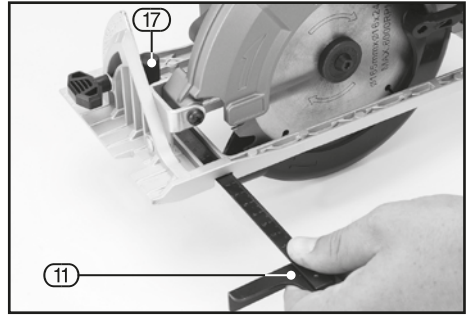

FIG.11
9.5 PARALLEL GUIDE – FIG.11
- Pass the parallel guide (11) through the slots in the base and secure with locking knob (17).